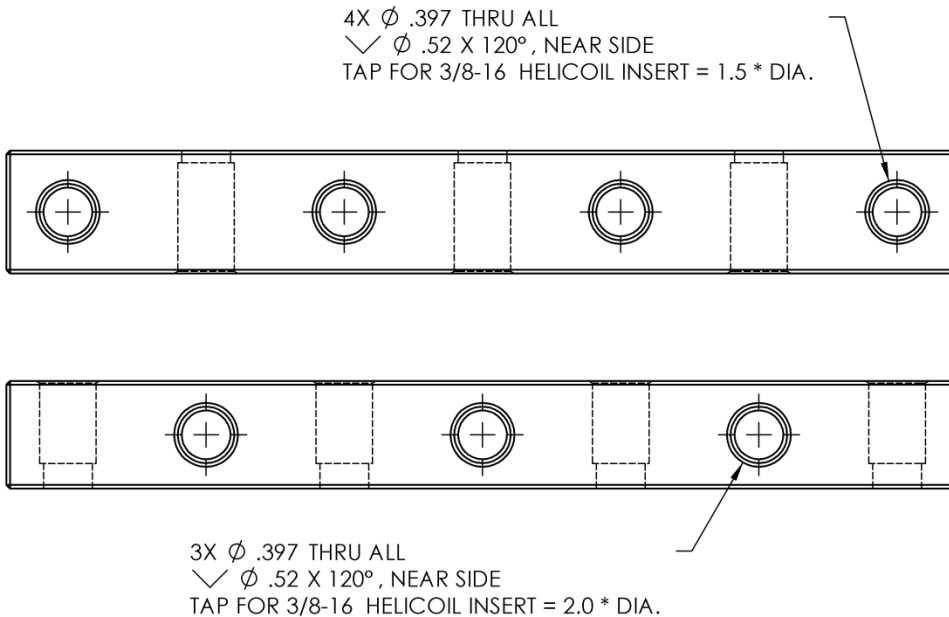

Figure 25
1. Apply Helicoils as shown Figure 25.